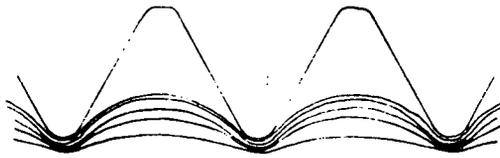

FIGURE 2
- 5.3.1 Threads shall be produced on the finished blanks by a single rolling. Flow lines at threads shall be continuous, shall follow the general thread contour, and shall be of maximum density at root of thread (see Figure 2).